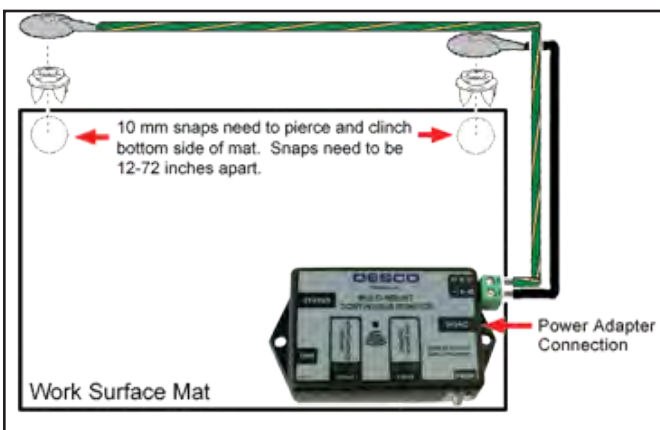

Figure 3. Installation of the Multi-Mount Continuous Monitor
- II. The Multi-Mount Continuous Monitor may be mounted to a convenient location using the included mounting screws or Velcro® set. See Figure 3 for installation set-up.
- The work surface resistance is measured between the two snaps installed to the mat worksurface (See Figure 3).